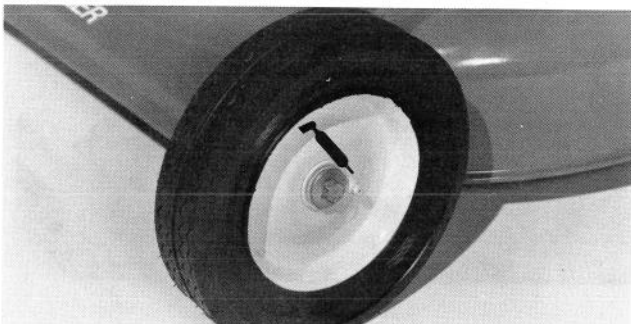

Figure 28
1. Lubricate wheel bearings with No. 2 general purpose grease (Fig. 28).